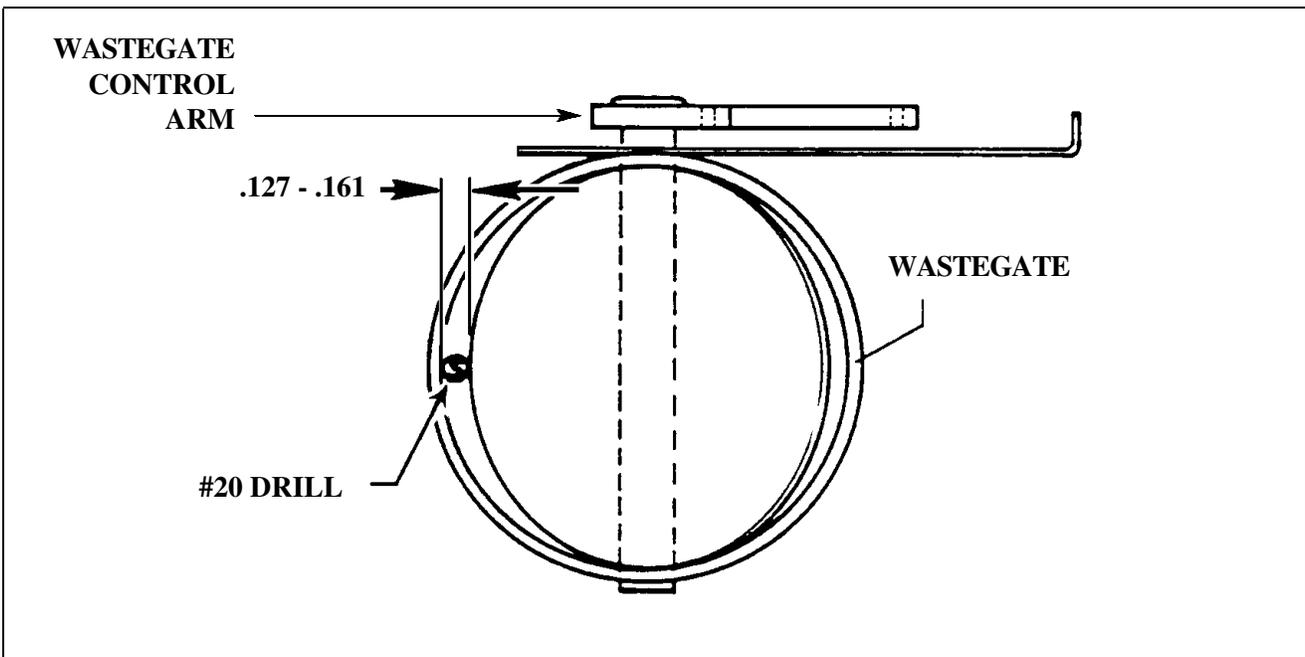

Figure 81-3. Wastegate Adjustment
4. Place the shank end of a #20 drill bit between the inner wall of the wastegate assembly and the butterfly valve (Refer to Figure 81-3.)